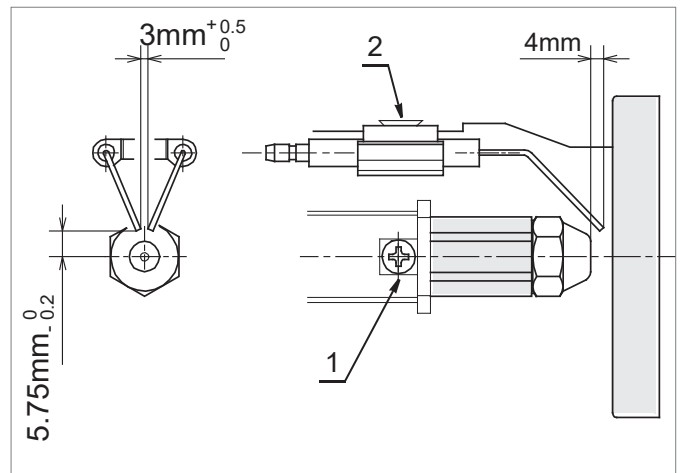

Figure 10-6: Ignition electrode settings
11. Check/adjust the electrode assembly to give the correct gap (4mm) between the nozzle and electrodes. Refer to Figure 10-6.